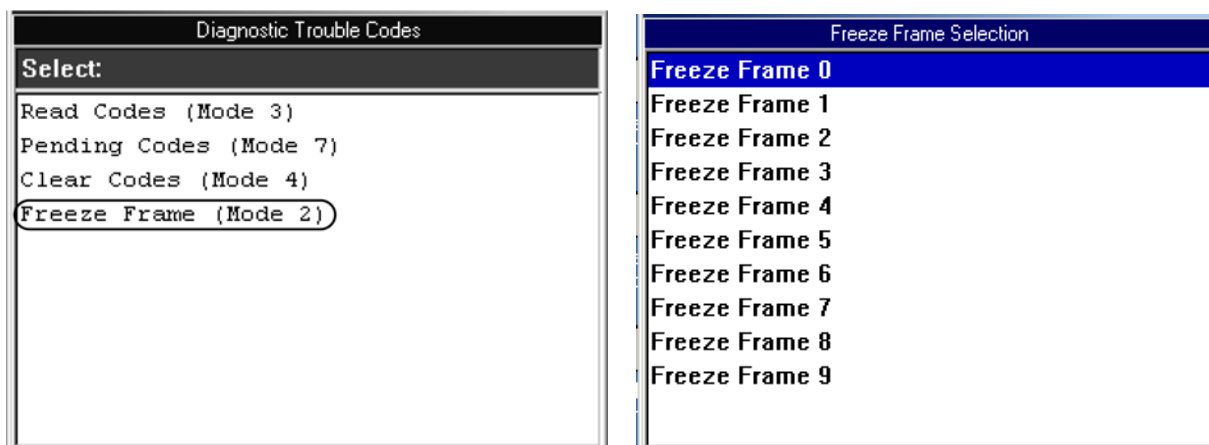

Figure 11.7: OBD II Diagnostic Trouble Codes Screen and Freeze Frame Selection Screen
- 2 Select **Freeze Frame** and press the **ENTER** key. This displays the Freeze Frame Selection screen as shown in figure 11.7. Each frame contains a snapshot from when a DTC occurred.